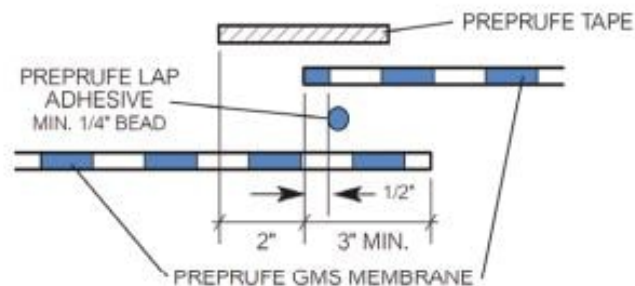

Figure 2
**Roll ends and cut edges**—Overlap all roll ends and cut edges by a minimum 3 in. (75 mm) and ensure the area is clean and free from contamination, wiping with a damp cloth if necessary. Allow to dry and apply a minimum ¼ in. (6 mm) bead of PREPRUFE®Lap Adhesive along all edges between the roll ends and cut edges before attempting to overlap (See Figure 2). Apply PREPRUFE®Tape LT (or HC in hot climates) centered over the lap edges and roll firmly. Immediately remove plastic release liner from the tape.